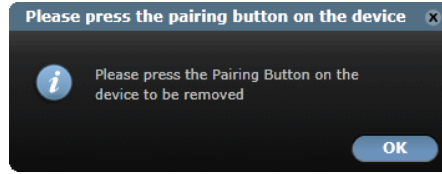

Figure 154: Removal Message for a Z-Wave® Device
4. The removal message (see above Figure 154) pops-up.